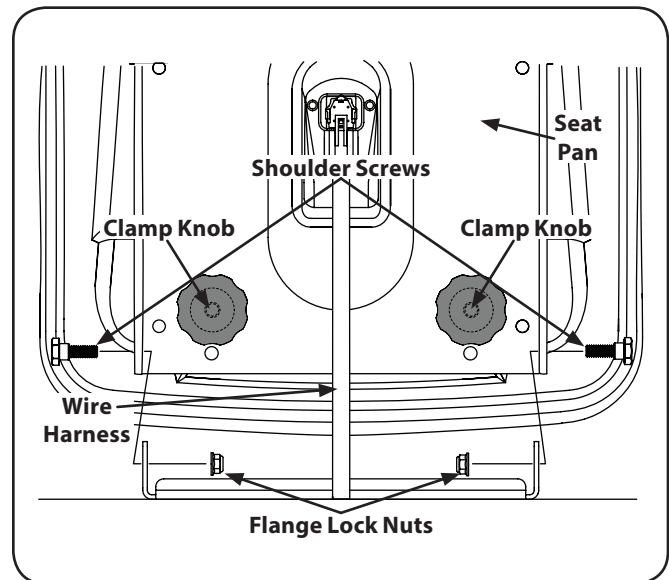

Figure 3-2
2. Remove the two shoulder screws and flange lock nuts in the seat pan as shown in Figure 3-2.
3. Rotate the seat into position and secure the seat into place with the previously removed shoulder screws and flange lock nuts. Be careful not to crimp or damage the wire harness while installing the seat. See Figure 3-2.
To adjust the position of the seat, rotate the seat forward and locate the clamp knobs on the front of the seat pan. Refer to Figure 3-2.